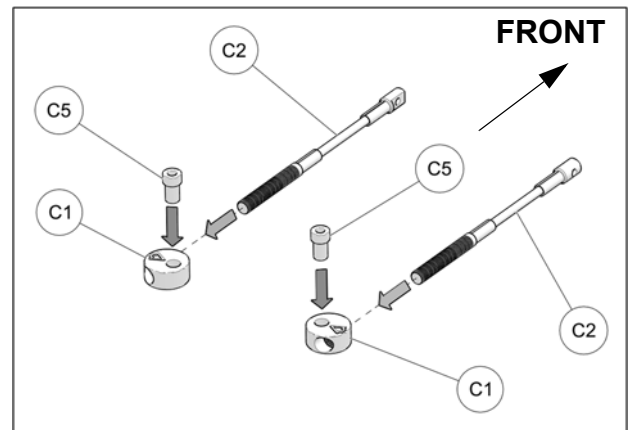

Fig. 21
11. Assemble steering limiter cables (C2), aluminum disks (C1) and step spacers (C5) together as shown on Fig. 21